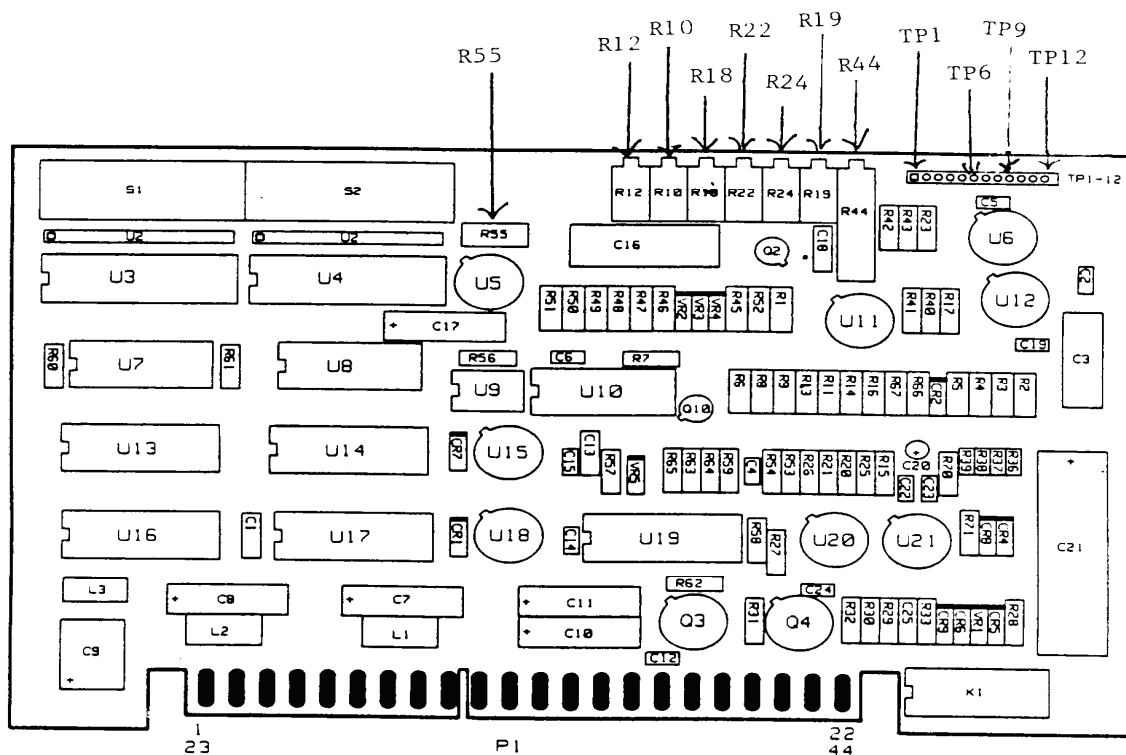
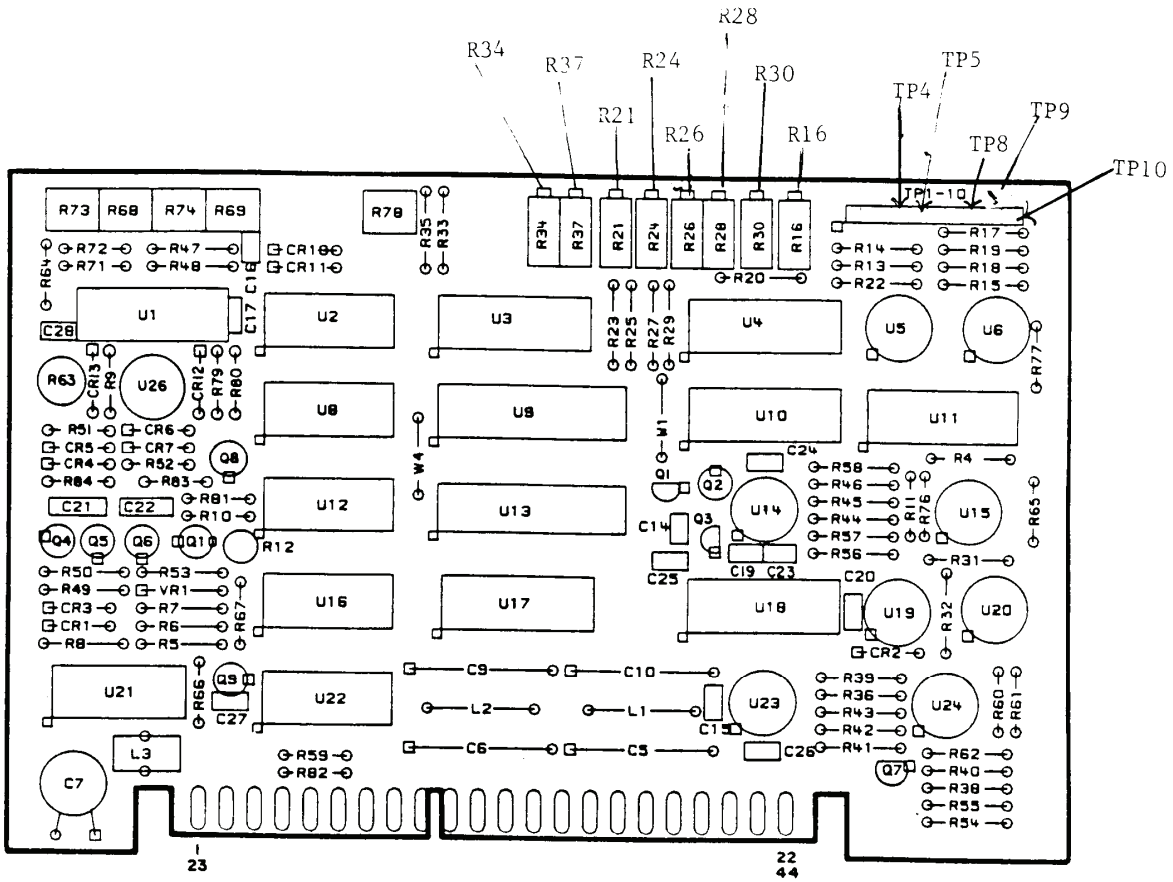
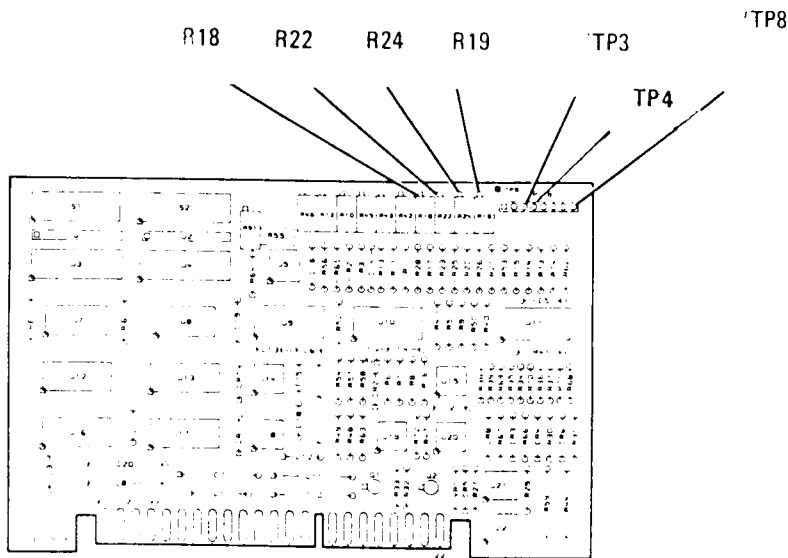

Figure 6. A8 board adjustment locations.
Figure 7. A6 board adjustment locations.
Figure 8. A7 board adjustment locations.
(1) Connect multimeter to A8TP12 (+) and A8TP1 (-) (fig. 6).
(2) Adjust A8R44 (fig. 6) for multimeter indication of -10.000 V dc (R).
(3) Disconnect multimeter from A8TP12 and A8TP1. Connect to A6TP9 (+) and A6TP10 (-) (fig. 7).
(4) Press **INSTR PRESET** and **CW** keys. Enter data **20 GHz** on keyboard.
(5) Adjust **FREQUENCY VERNIER** control for multimeter indication of 10.000 V dc.
(6) Disconnect multimeter from A6TP9 and A6TP10. Connect to A8TP6 (+) (fig. 6) and A7TP8 (-) (fig. 8).
(7) Press function keys and enter corresponding data on keyboard as listed in as listed in (a) through (f) below:
(8) The **FREQUENCY** display will indicate 2C83 and the **FREQUENCY/TIME** display will indicate 00; if not, repeat (3) through (7) above.
(9) Adjust A8R22 (fig. 6) for multimeter indication of -7.000 V dc (R).
(10) Press ↓ key two times. The **FREQUENCY** display will indicate 2C81.
(11) Press function keys and enter corresponding data on keyboard as listed in as listed in (a) through (d) below:
(12) The **FREQUENCY** display will indicate 2C83 and the **FREQUENCY/TIME** display will indicate 0F.
(13) Adjust A8R24 (fig. 6) for multimeter indication of -20.000 V dc (R).
(14) Repeat (10) above.
(15) Press function keys and enter corresponding data on keyboard as listed in as listed in (a) through (d) below:
(16) The **FREQUENCY** display will indicate **2C83** and the **FREQUENCY/TIME** display will indicate **F0**.
(17) Adjust A8R19 (fig. 6) for multimeter indication of -26.500 V dc (R).
(18) Press **↑** key four times. The **FREQUENCY** display will indicate **2C87**.
(19) Press function keys and enter corresponding data on keyboard as listed in as listed in (a) through (d) below:
(20) The **FREQUENCY** display will indicate **2C8B** and the **FREQUENCY/TIME** display will indicate **00**.
(21) Disconnect multimeter from A8TP6 and connect to A7TP3 (fig. 8). Adjust A7R22 (fig. 8) for multimeter indication of -3.000 V dc (R).
(22) Press **↓** key two times. The **FREQUENCY** display will indicate **2C89**.
(23) Press function keys and enter corresponding data on keyboard as listed in as listed in (a) through (d) below:
(24) The **FREQUENCY** display will indicate **2C8B** and the **FREQUENCY/TIME** display will indicate **0F**.
(25) Adjust A7R24 (fig. 8) for multimeter indication of -19.500 V dc (R).
(26) Repeat (22) above.
(27) Press function keys and enter corresponding data on keyboard as listed in as listed in (a) through (d) below:
(28) The **FREQUENCY** display will indicate **2C8B** and the **FREQUENCY/TIME** display will indicate **F0**.
(29) Adjust A7R19 (fig. 8) for multimeter indication of -9.500 V dc (R).
(30) Press keys as listed in (a) through (c) below: